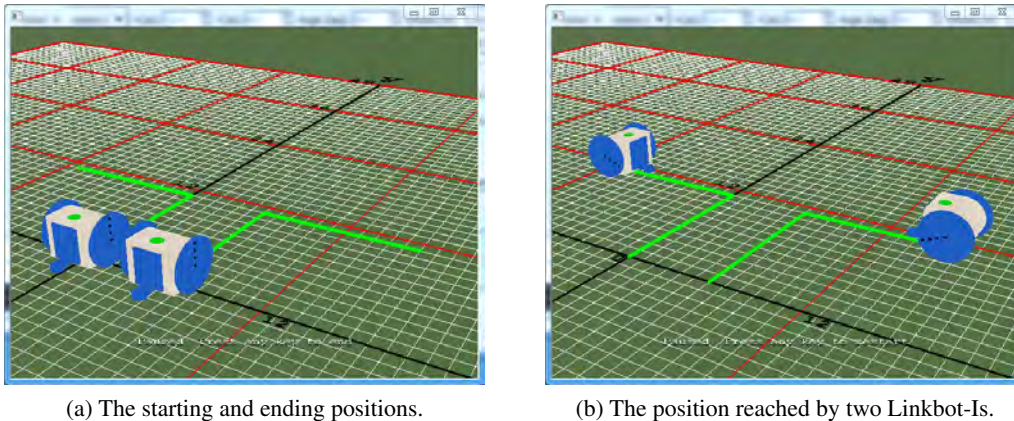

Figure 13.5: The trajectories for two Linkbot-Is.
5. Two Linkbot-Is are configured as two-wheel robots. The radii of the wheels for both Linkbot-Is are 1.75 inches. The track width of the Linkbot-I is 3.69 inches. Write a program `turnleftnb2.ch` for two Linkbot-Is moving in the following manner simultaneously. The joint speeds for Linkbot-Is are set to 45 degrees per second. Two Linkbots will roll forward for 360 degrees from a starting line at the same time. Next, the first robot turns left 90 degrees and the second robot turns right 90 degrees. Then, both robots roll forward for 360 degrees. Finally, both robots drive back to the originally positions along the same paths as shown in Figure 13.5.